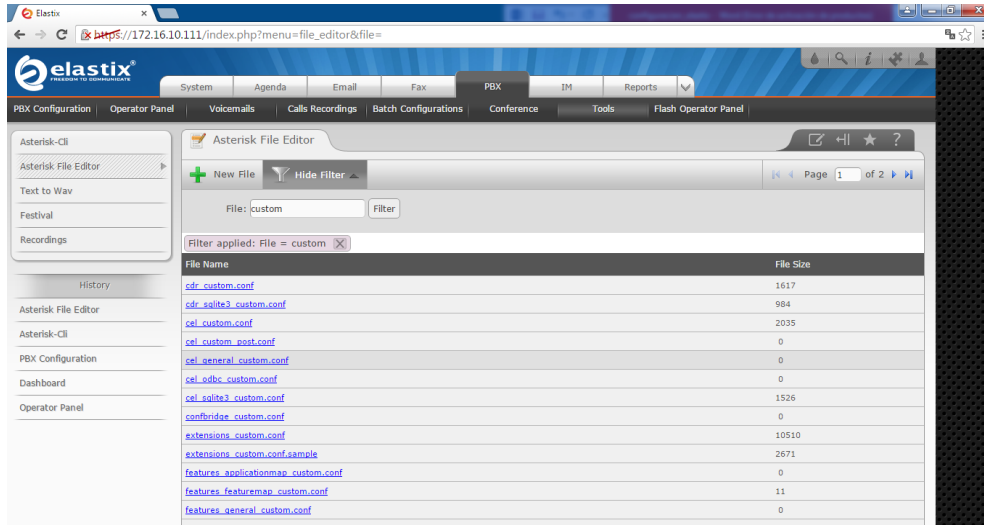

Figura 3.30 Buscar `extensions_custom.conf`
3. Buscar `extensions_custom.conf` ver Figura 3.30 .